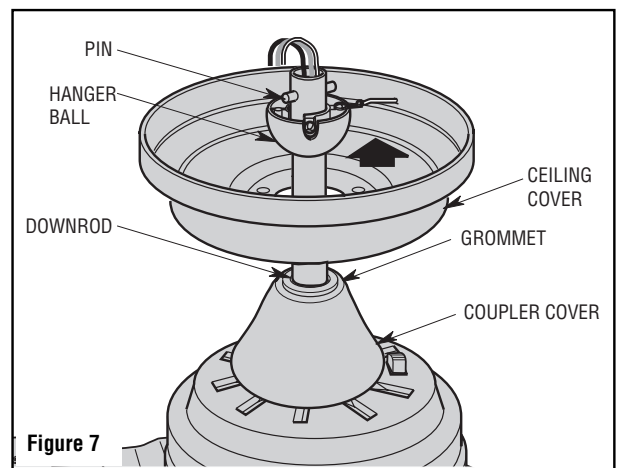

Figure 7
12. Make sure the grommet is properly installed in the coupler cover, then slide the coupler cover on the downrod until it rests on the motor housing. Place the ceiling cover over the downrod. Be sure that the ceiling cover and the coupler cover are both oriented correctly (Figure 7).
13. Reinstall the hanger ball (Figure 7) on the downrod as follows. Route the three 80" motor leads through the hanger ball. Position the pin through the two holes in the downrod and align the hanger ball so the pin is captured in the groove in the top of the hanger ball. Pull the hanger ball up tight against the pin and securely tighten the setscrew in the hanger ball. A loose setscrew could create fan wobble.